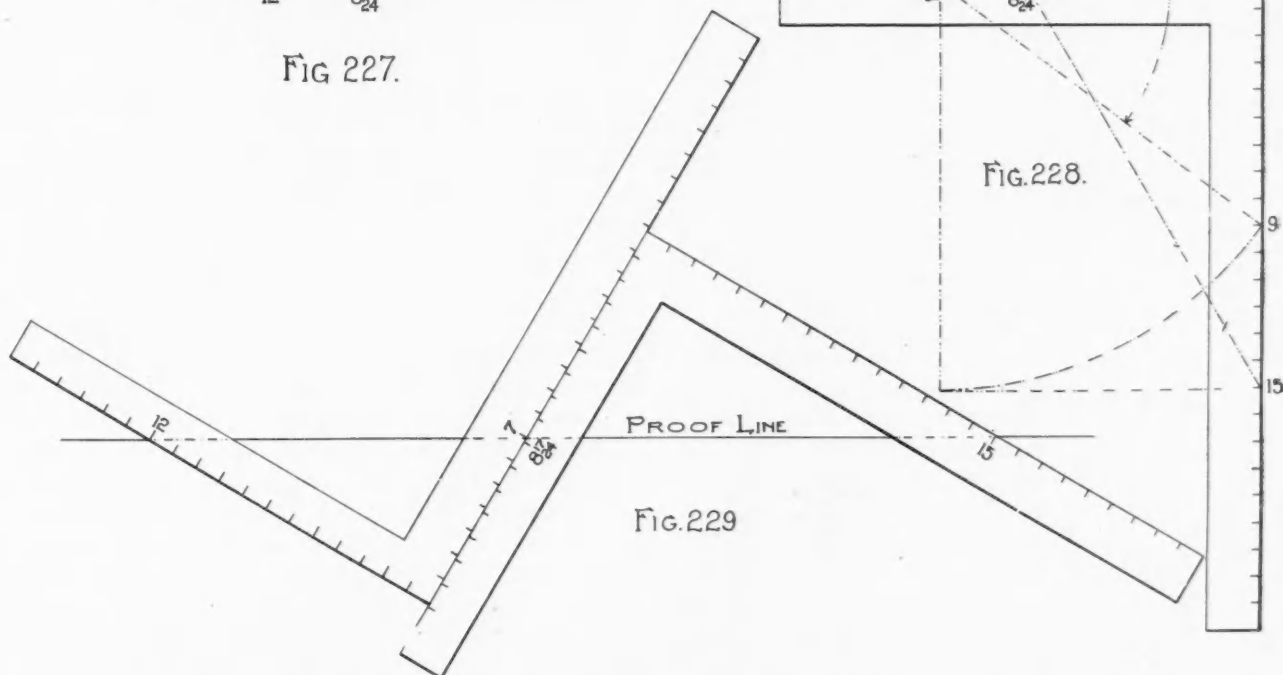

FIG.229
The reader of course will understand that two squares are shown in this figure for illustration purposes only, as one is all that is necessary to lay off a diagram to obtain the working proportions. Note that the line from 12 to 9 on the lower square is at right angles to the pitch line (12 and 16) shown on the upper square. The reason of this is that the angle formed by these two lines represents the square edged board and the figures to use on the square are 8 17/24 on the tongue and the length of the line from 12 to 9 (15) taken on the blade; these give the angle, as shown in the proof illustration of the two methods in Fig. 229.